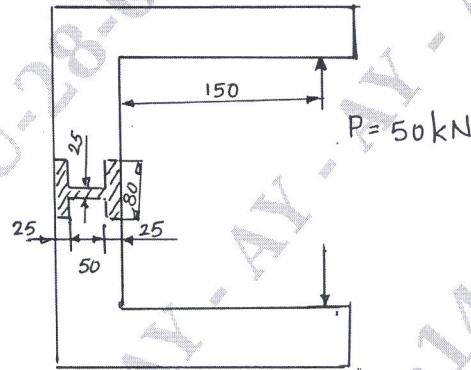

Fig.Q1(b)
- b. Determine the extreme fibre stresses at the critical section of the machine member loaded as shown in Fig.Q1(b). Also show the distribution of stresses at this section. (12 Marks)